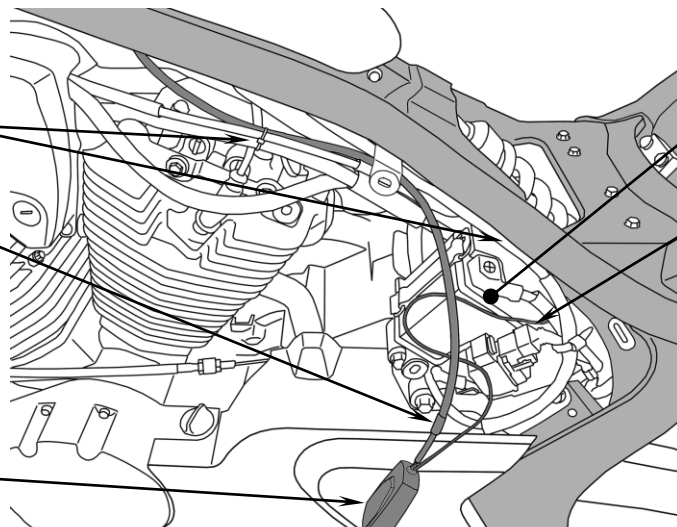

**FIGURE 2**
3. Route the Fi2000 wire harness from the battery location, following along existing harness under the gas tank, to the right side of motorcycle until reaching the fuel injectors and connectors. See Figures 2 & 3.
4. Note which stock injector connectors belong to front and rear injectors. Disconnect the stock injector connector from the front cylinder and connect the longer female Fi2000 connector to that injector – connect corresponding male connector to stock female connector (removed from front cylinder). See Figure 2.
5. Disconnect the stock injector connector from the rear cylinder and connect the shorter female Fi2000 connector to that injector – connect corresponding male connector to stock female connector (removed from rear cylinder). See Figure 2.